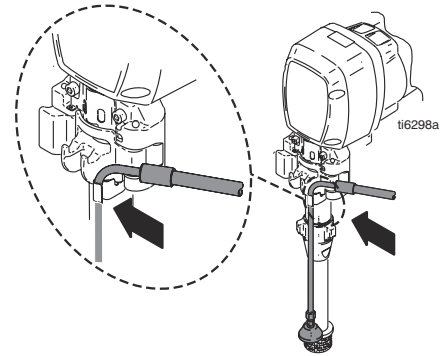

FIG. 28
7. FIG. 28. Attach drain hose to sprayer.